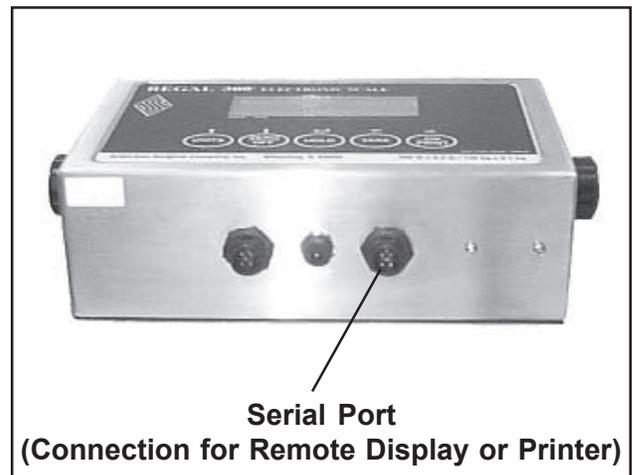

Figure 14. Display Console Serial Port
3. Plug the other end of this cable into the serial port on the scale display console (Figure 14).
3. Plug the other end of the cable into the serial port on the scale display console (Figure 14).